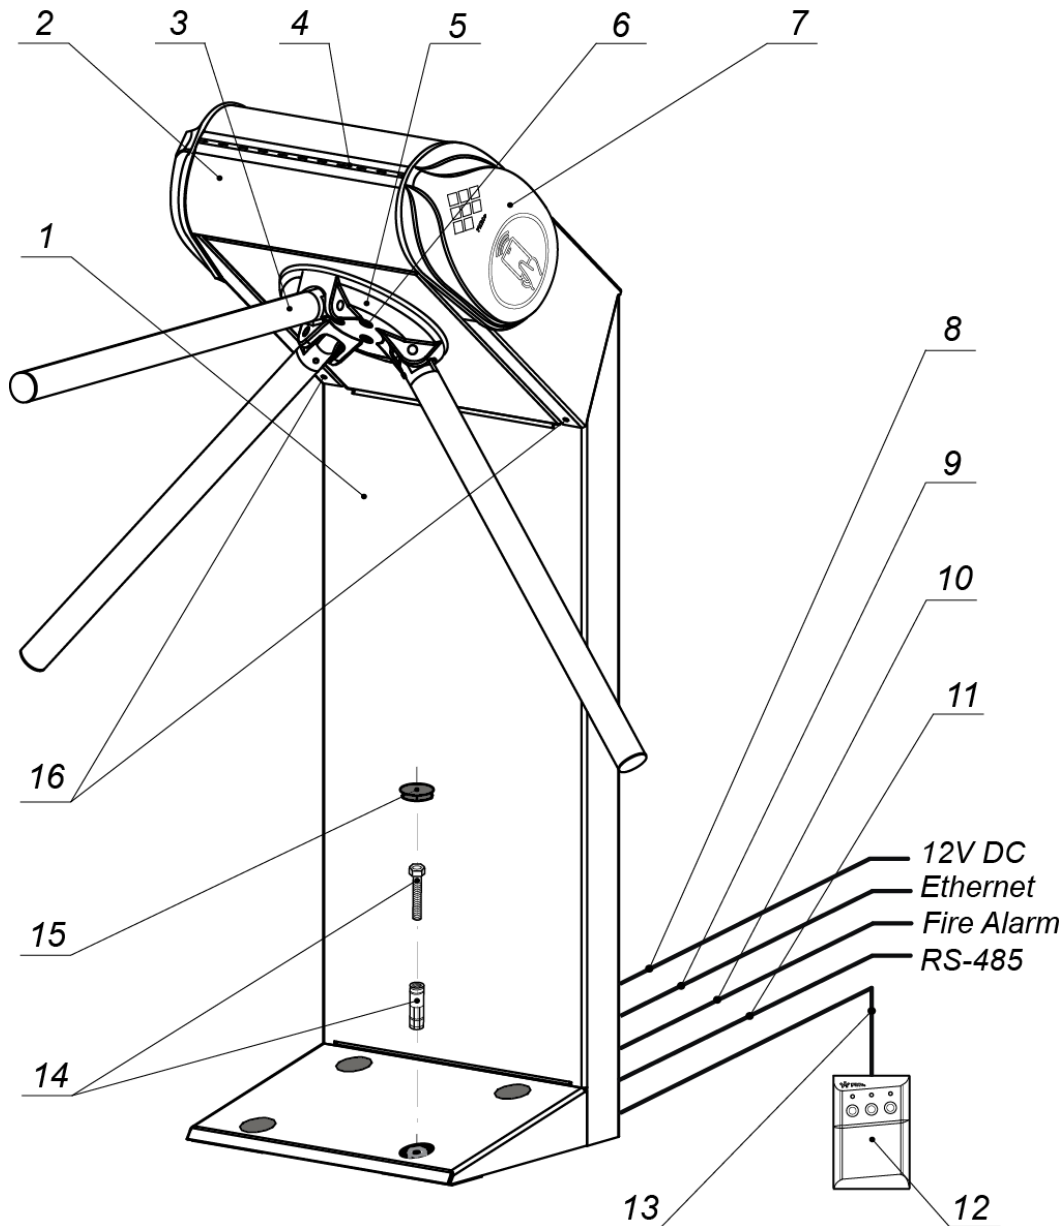

Figure 1. IP-Stile configuration
IP-Stile configuration is shown on Fig 1. IP-Stile consists of the housing (1-3) with built-in IP-Stile controller, two proximity card readers with indication modules, three barrier arms (4), RC-panel (13) and the Software for operation as a parts of **PERCo-Web ACS**.